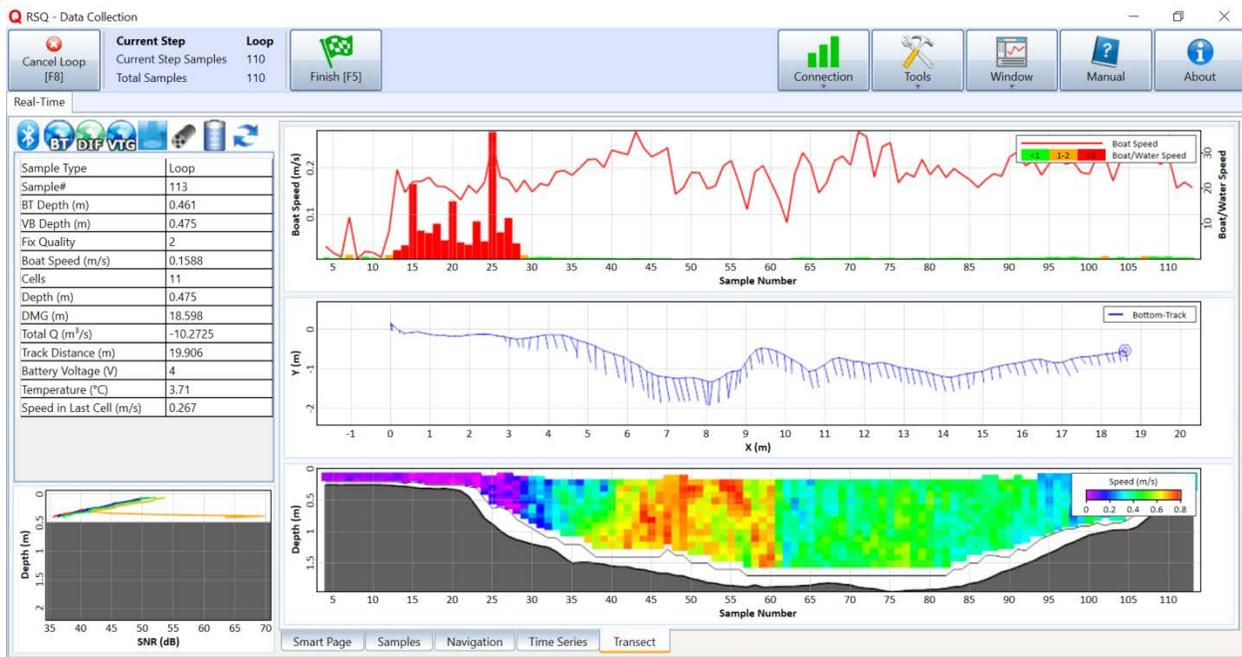
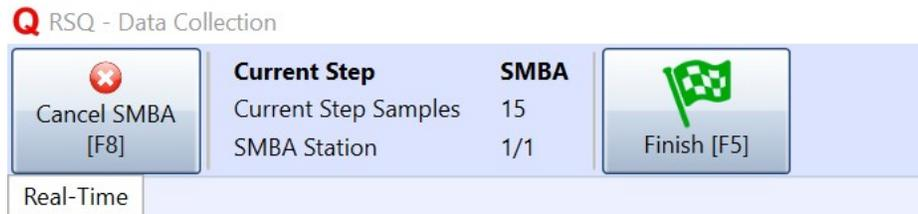

Figure 72. Loop Measurement Dialog
Figure 76. SMBA Status
- Once started, the Loop measurement data will appear, as shown in Figure 72, and the user should begin moving the RS5 across the section. By default, the Boat Speed and Boat/Water Speed Ratio will be plotted on top. It is essential that the user maintain a steady, slow boat speed throughout the out-and-back transect. Per the recommendation from Mueller and Wagner (2006), the boat speed should be the lesser of a.) the boat speed that requires no less than 3-minutes to complete the loop or b.) the boat speed that is less than 1.5 times the mean water speed. The ship track and velocity profile are also plotted.
4. The SMBA data collection will begin, and the same data will appear as shown for the Loop measurement (Figure 72). To track the progress of the measurement, the top left area of the RSQ software will display the current number of samples (shown in Figure 76).